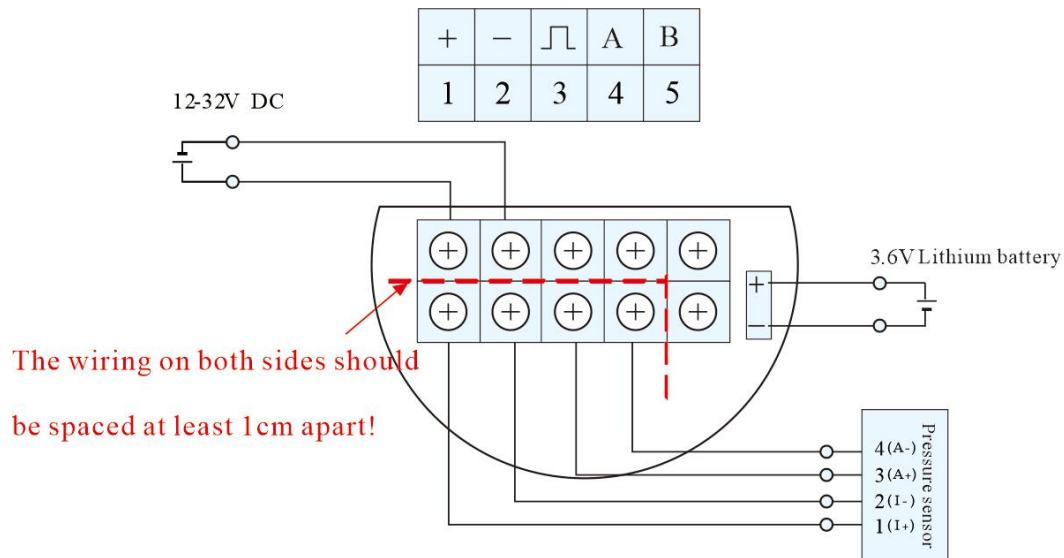

Fig.19
5. Dual power supply+pressure sensor (Fig.19)